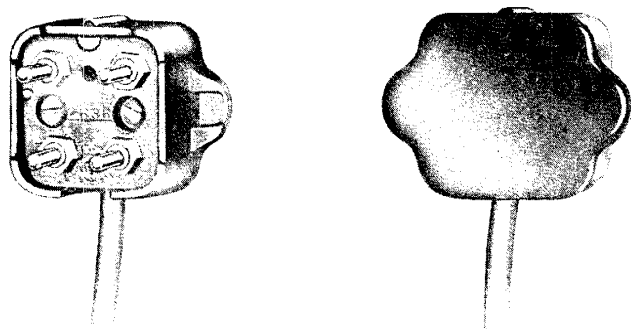

**Fig. 6—423A Plug, Front View and Rear View Cover Removed**
**2.07** The 423A plug (Fig. 6) is a 2-piece, 4-contact molded plastic plug for use with the 750-type panel telephone set. U-shaped projections are molded in the base for securing the mounting cord.
- (1) Make connections as indicated by color designations stamped adjacent to terminals.
- (2) Connect cord tips as shown in Fig. 6.
- (3) Lay jacketed portion of cord in the two molded U-shaped projections.
- (4) Place cover on base and tighten screw.